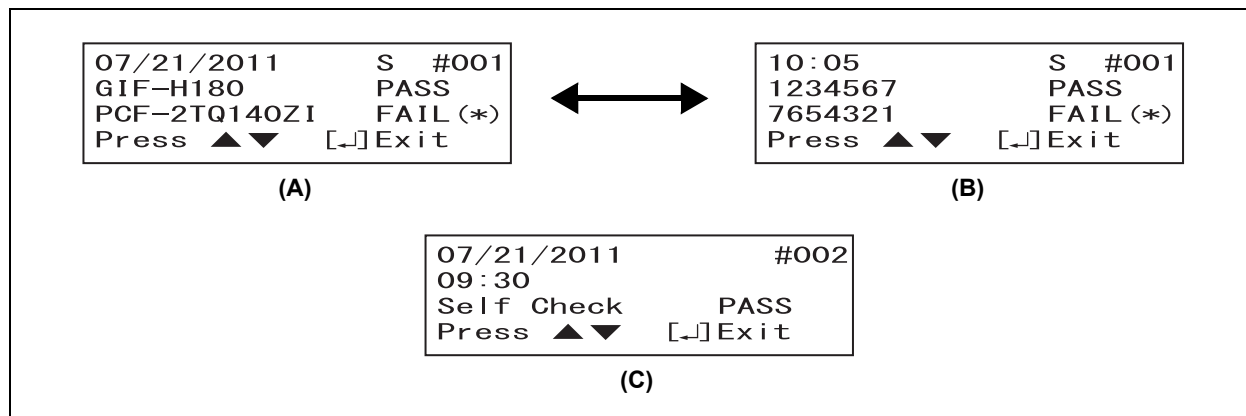

Figure 7.4
- 3** Select “Leak Test Log” by operating the ▲ and ▼ buttons and press the ENTER button. The LCD display the leak test log. The model name or serial number of the endoscopes used in the leakage testing is displayed alternately as shown in Figure 7.4 (A) or Figure 7.4 (B). The result of self-check is also displayed as shown in Figure 7.4 (C)